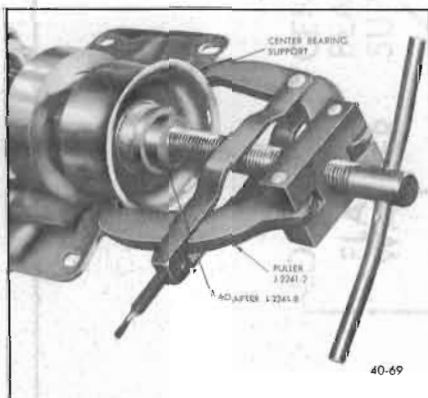

Figure 40-58—Removing Center Support and Bearing, 45-46-48000
2. Place the smaller O.D. end of Adapter J-2241-8 (Differential side carrier bearing puller adapter, 1955 and previous) into the splines of the propeller shaft. Position Differential Side Bearing Puller J-2241-2 as shown in Figures 40-58 and 40-59. Pull the center support and bearing assembly from the propeller shaft. Leave the slinger (shield) in position on the shaft.